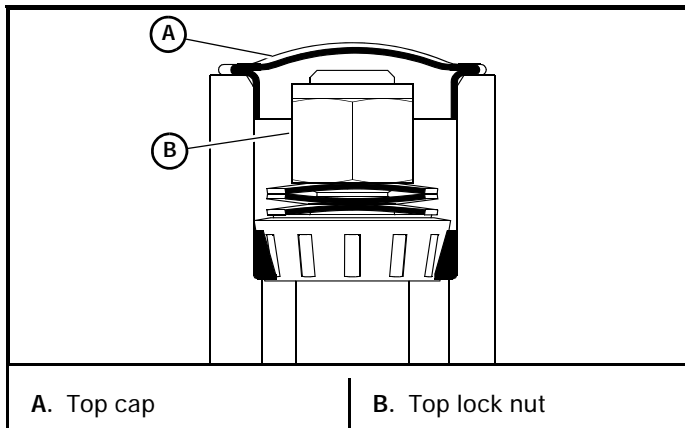

Figure 4-34
3. Remove the top cap and the top lock nut. Figure 4-34